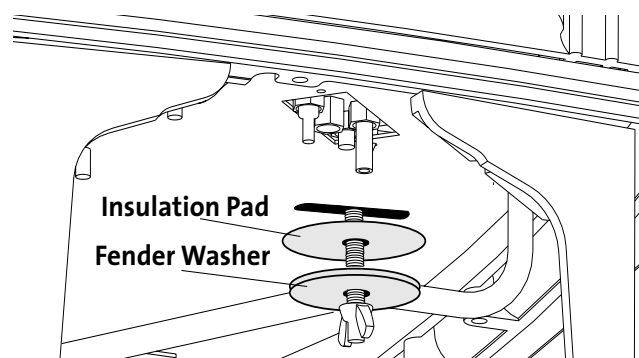

Figure 12. Locate and remove the Air Shutter wingnut from under the right side of the stove.
6. Reach under the stove and remove the Air Shutter wingnut from its stud. See fig. 12.
19. Adjust the Air Shutter. You will need to position the shutter to provide a gas/air mixture that will achieve the best flame picture with your particular installation. Start with the shutter stem at the half-way position in the slot in the bottom of the stove. See fig. 12. Pushing the stem back will restrict air, while pushing it forward will open the shutter and increase air. With some experimentation, you will find the shutter position that works best for your installation.